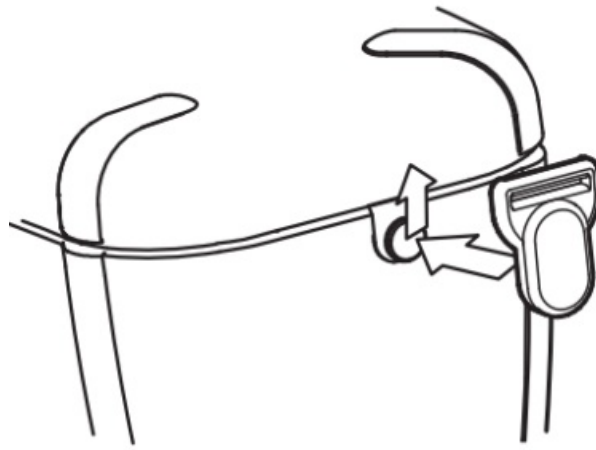

Fig. 19-1
1. Attach the Buckle to KEW 6514BT as shown in Fig. 19-1.